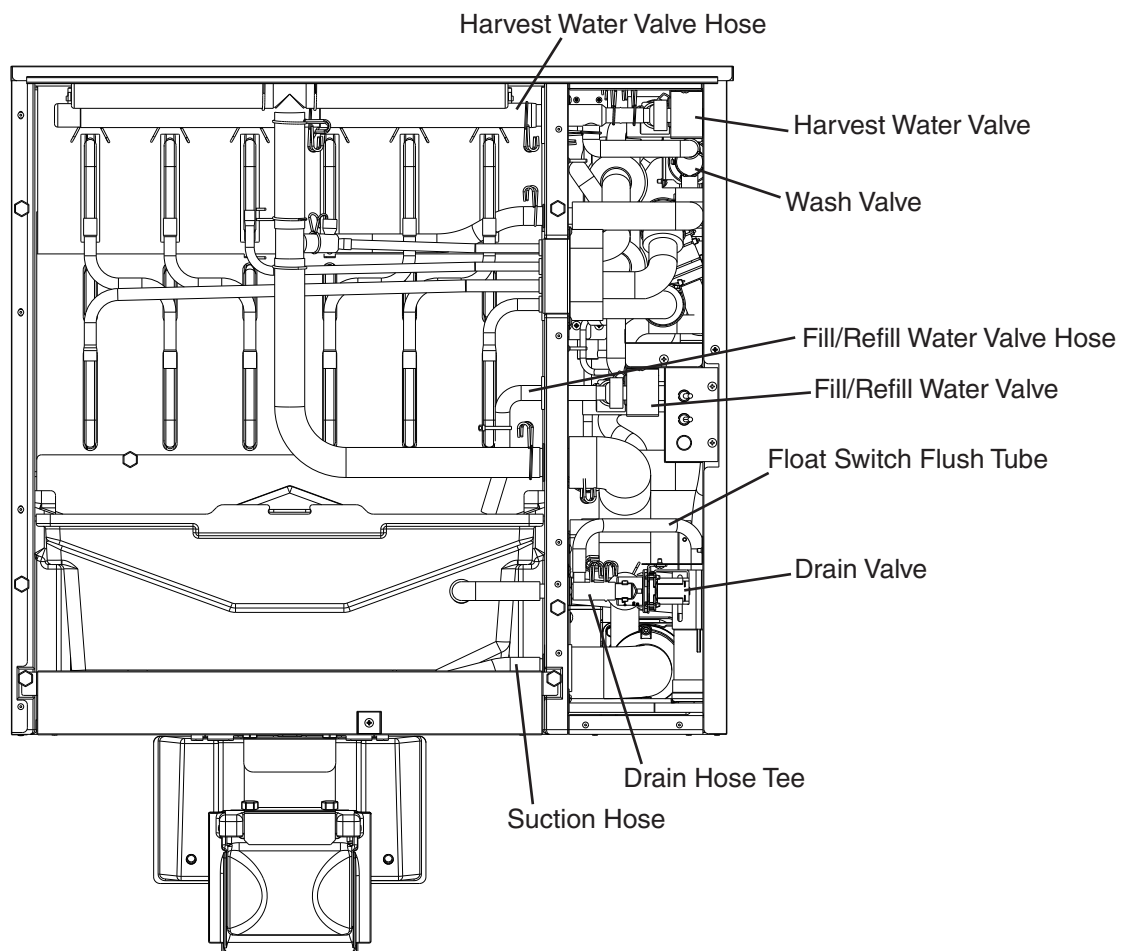

Fig. 4
- 7) Disconnect the harvest water valve hose in the evaporator section and blow out the water line to the harvest water valve using compressed air or carbon dioxide. See Fig. 4. This will clear water from the harvest water valve.